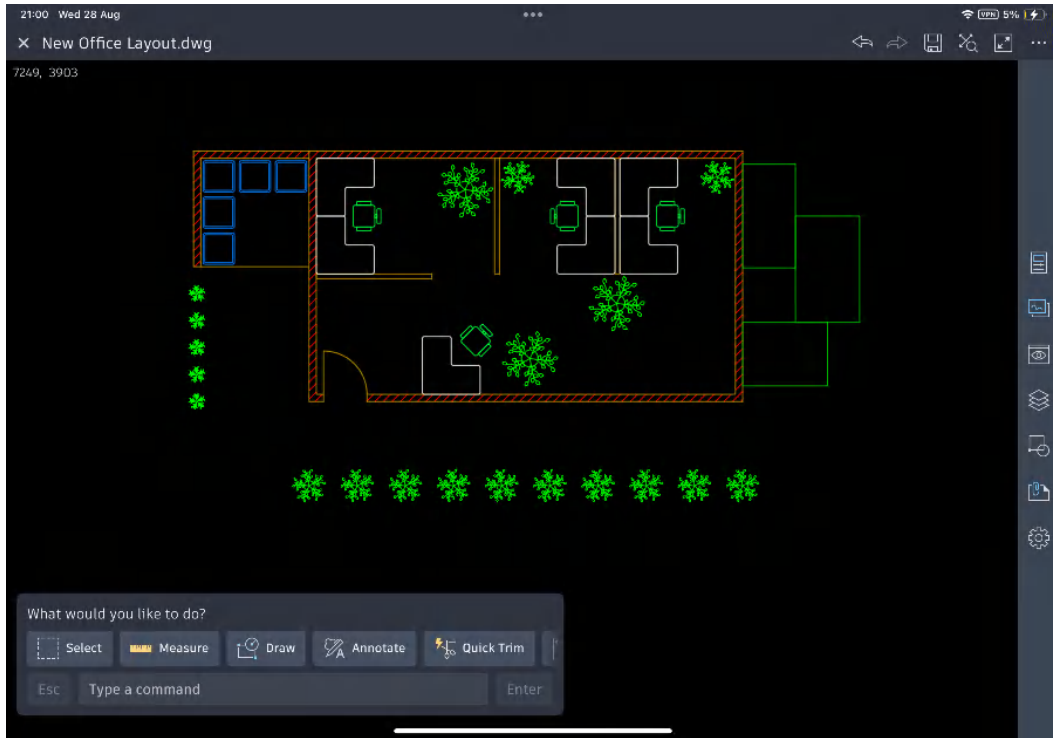

Figure 15.21: The cloud-based DWG file in the AutoCAD mobile application
2. Select the New Office Layout .dwg file. The AutoCAD mobile application will load the drawing. This may take a moment, depending on your mobile data coverage and the specification of your tablet. Once the DWG file has loaded, it will look as shown in *Figure 15.21*.